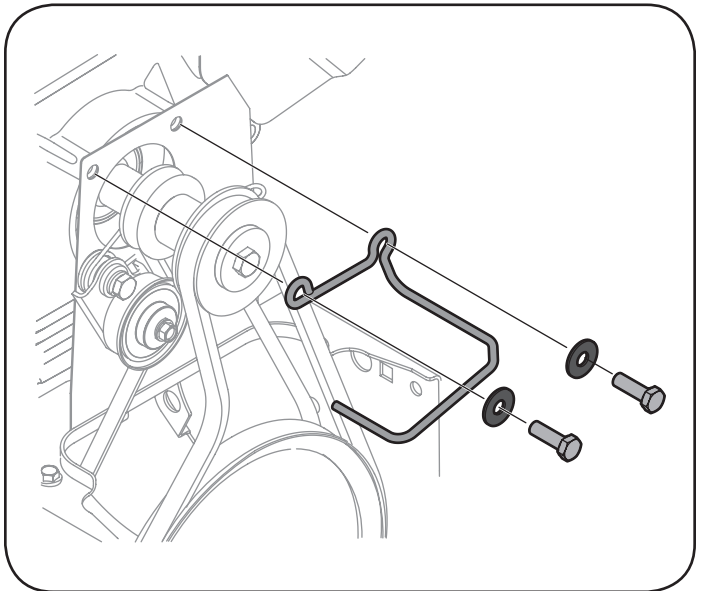

Figure 28
3. Loosen and remove the two bolts and flat washers securing the belt guide. See Figure 28. Remove belt guide.